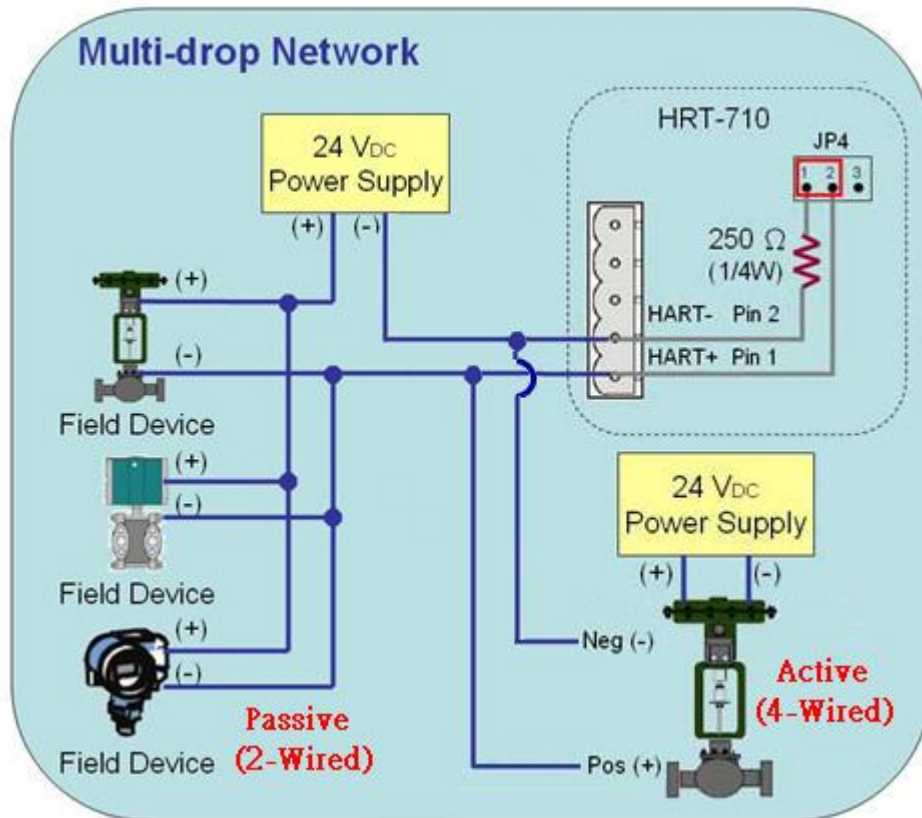

Figure 8-1 The HART wiring of the Active and Passive HART devices
2. The HART wiring of the Active and Passive HART devices, please refer to the figure 8-1.